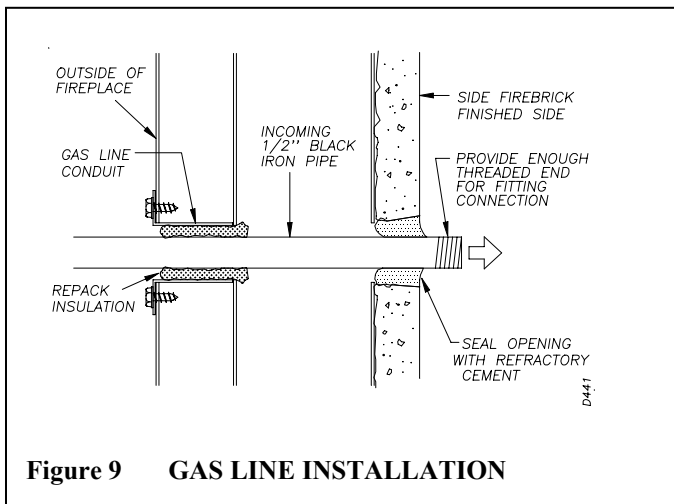

Figure 9 GAS LINE INSTALLATION
STEP 3: Run a 1/2" (I.D.) black iron gas line into the fireplace through the gas line conduit sleeve (if using a raised platform, add height). Provide sufficient gas line into fireplace chamber for fitting connection (see figure 9).